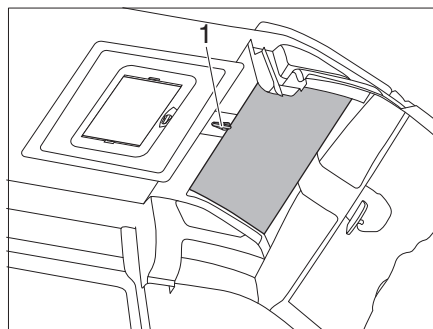

Fig. 75 SkyRoof®
- Open the latch and turn the crank a half rotation (Fig. 75,1).